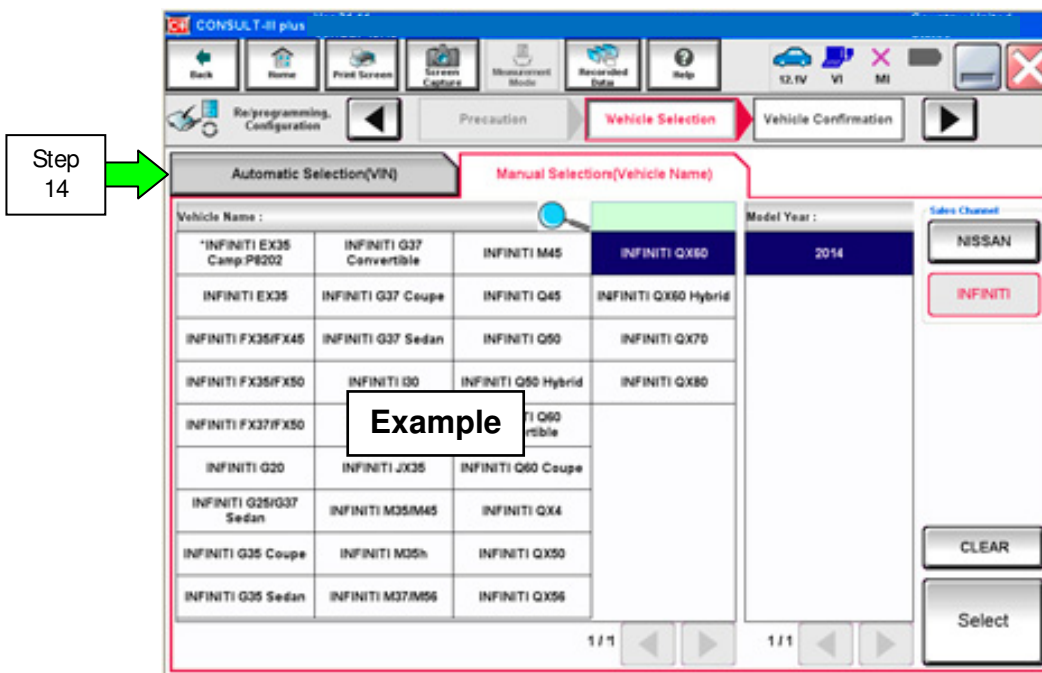

Figure 4
14. If the screen in Figure 4 displays, select Automatic Selection(VIN).
- If the screen in Figure 4 does not display, skip to step 15.